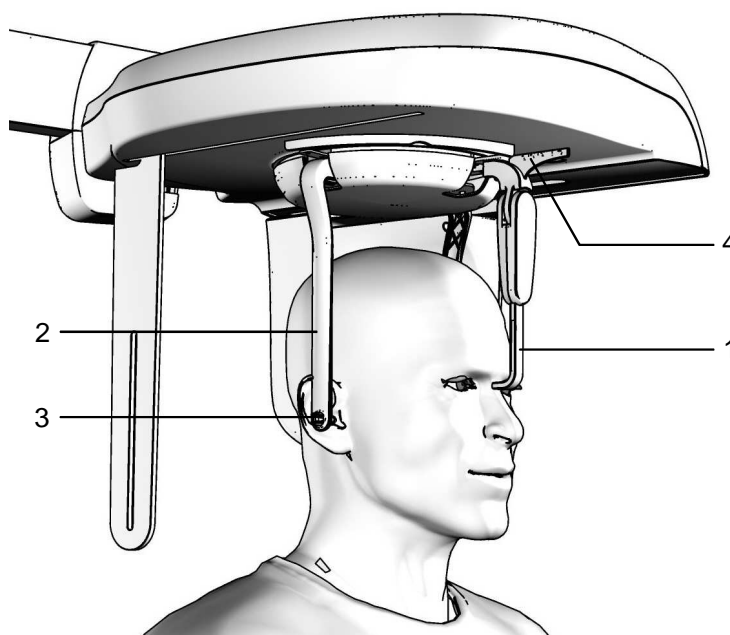

Figure 24
The position of the STF has to be adjusted according to the value read on the graduate scale present on the nose rest (Figure 24).
3. Open the ear centring device (Figure 24) to its maximum span by using the upper part of the rods of the centring device itself. Move the nose rest (Figure 24) away outwardly to its maximum extension. Manually rotate the craniostat group according to the cephalometric projection to be made, moving the upper part of the ear centring device (Figure 24).
the column till the centring pins (Figure 24) are close to the ear to clasp the patient's head so that the pivots penetrate the ear (Figure 24) moving the upper part of the rods.